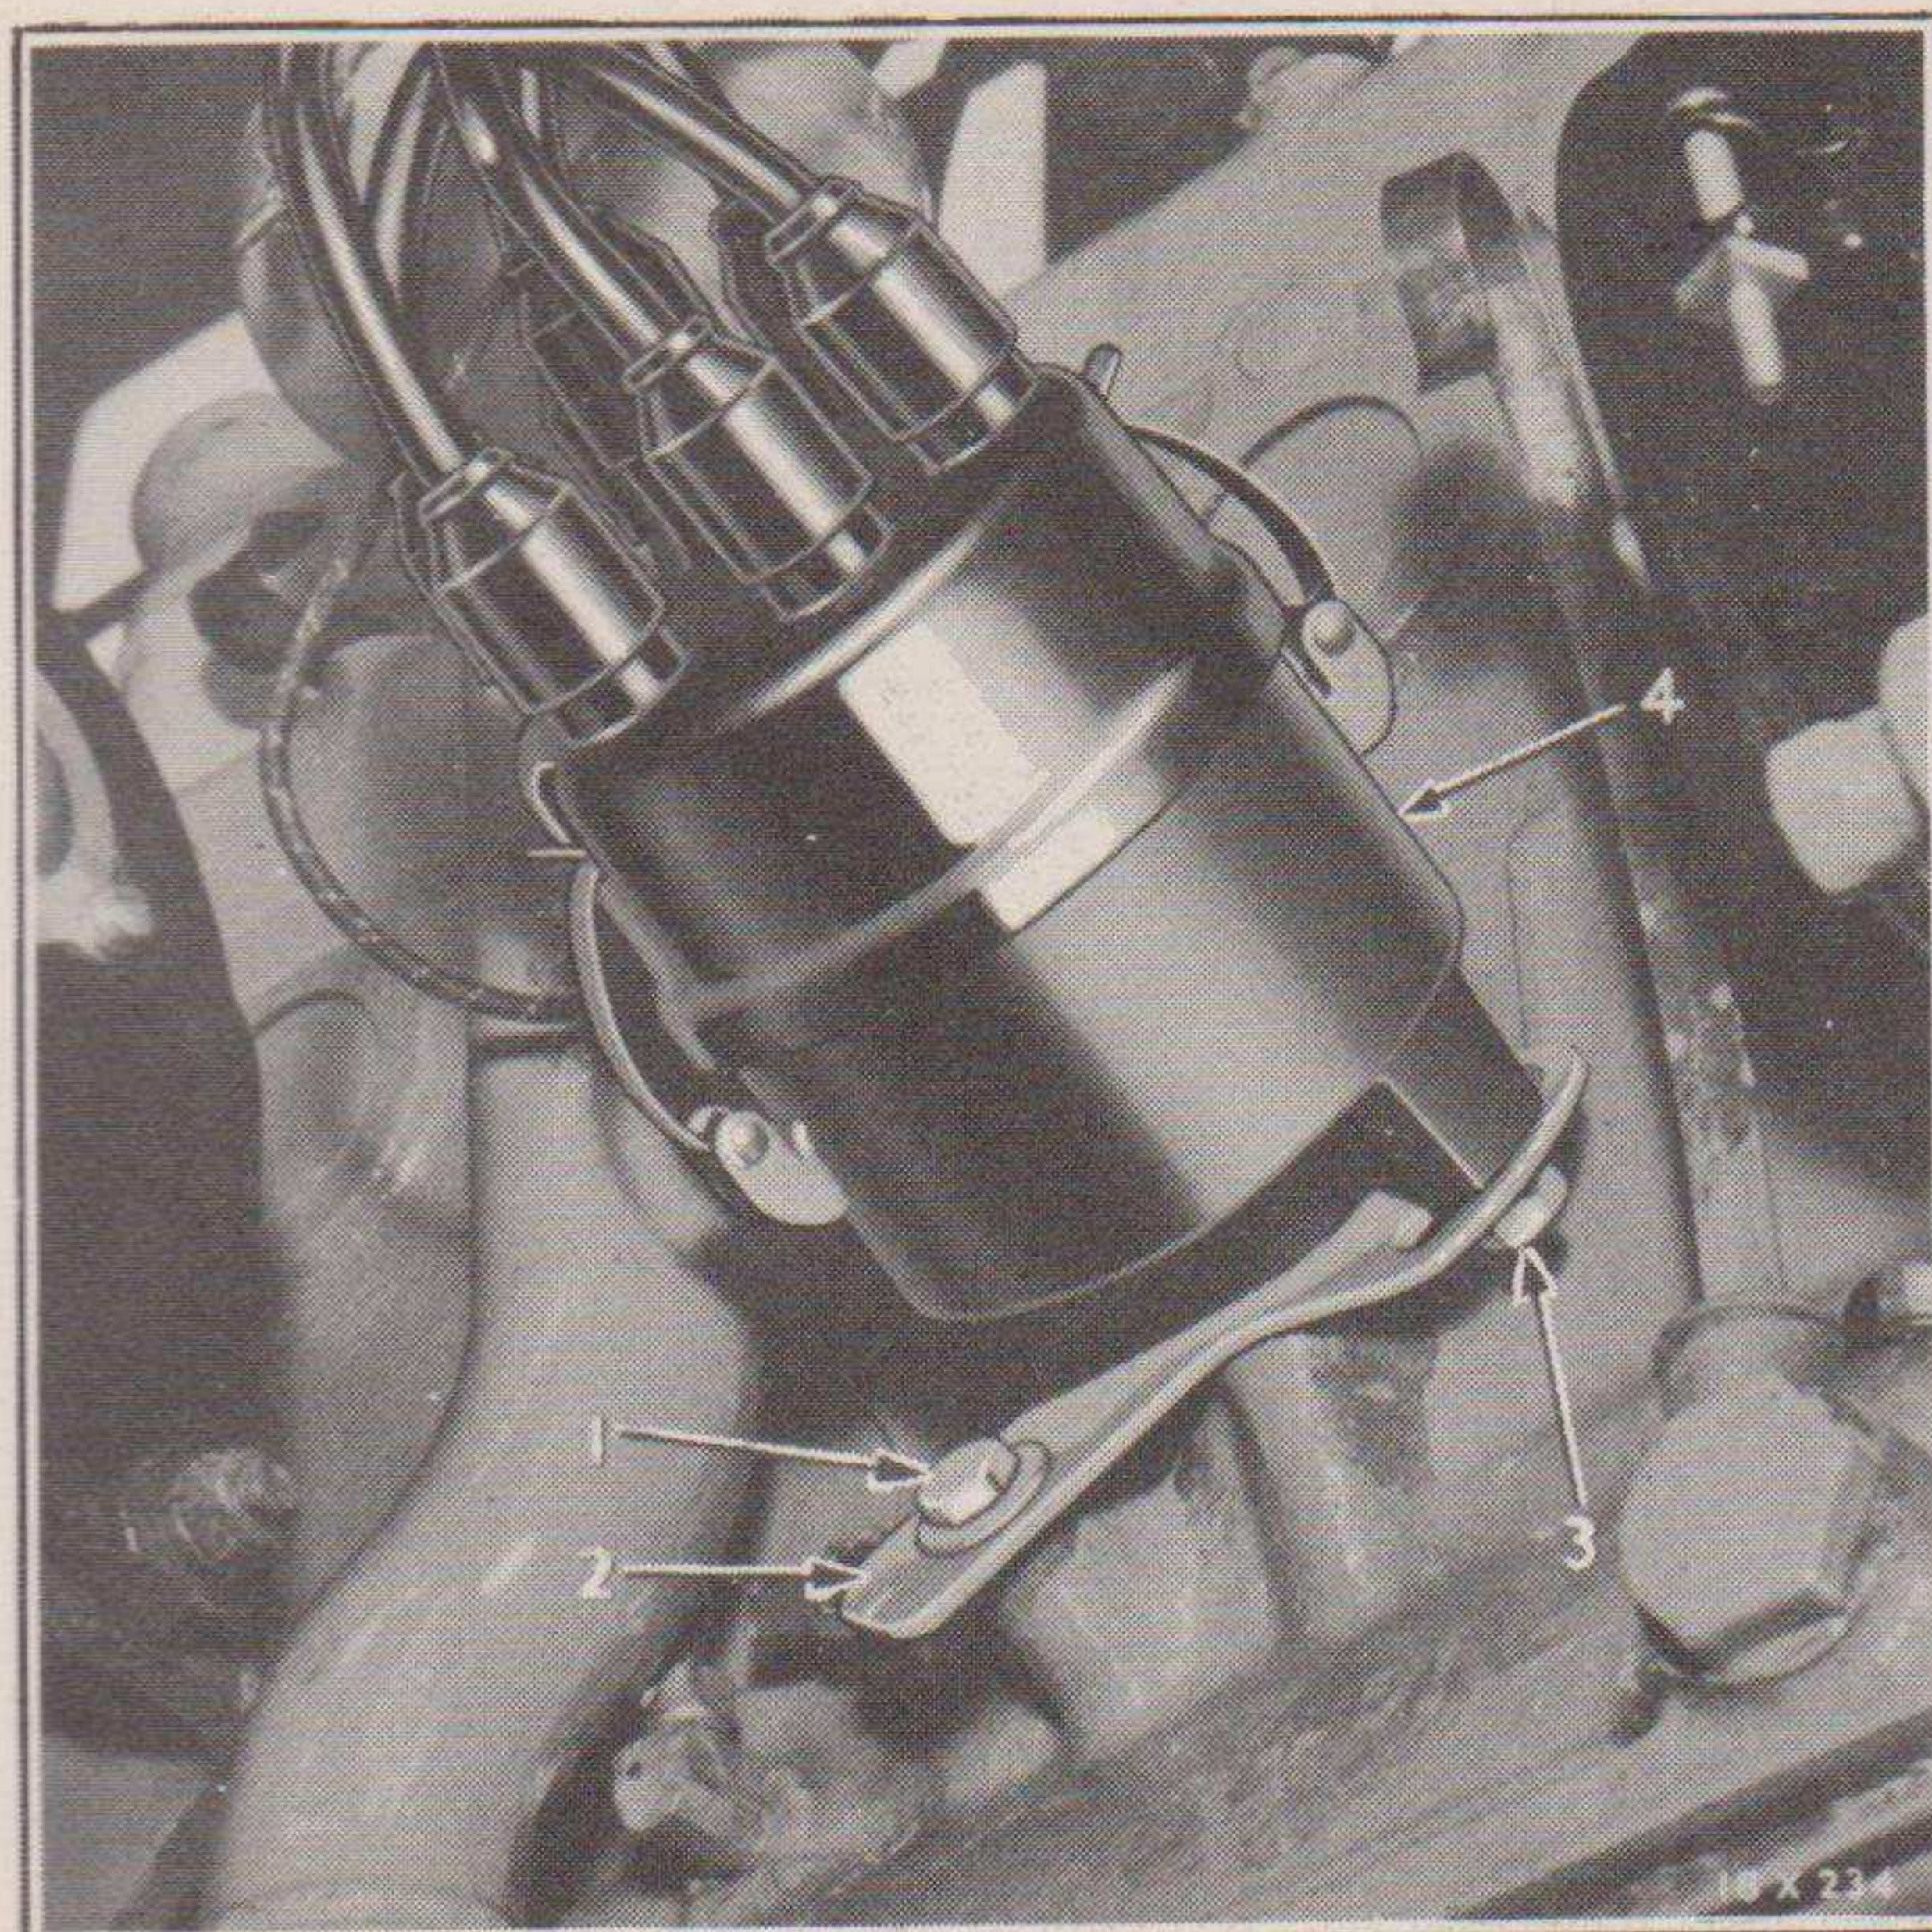

Fig. 137—Ignition Timing Adjustments
- (b) Loosen the clamp cap screw (3, Fig. 137) and rotate distributor body until breaker points just start to open. This may be checked by means of a test lamp connected
Minor changes in ignition timing may be obtained by loosening the adjustment control arm lock screw (1, Fig. 137) and rotating the arm slightly in the proper direction.